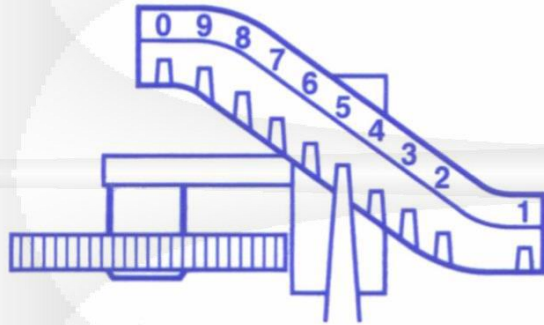

FIGURE 1
- 1) Set price wheels by positioning and fully engaging range arms (see Figure 1).
- 6) Set price by positioning and fully engaging three range arms (see Figure 1).